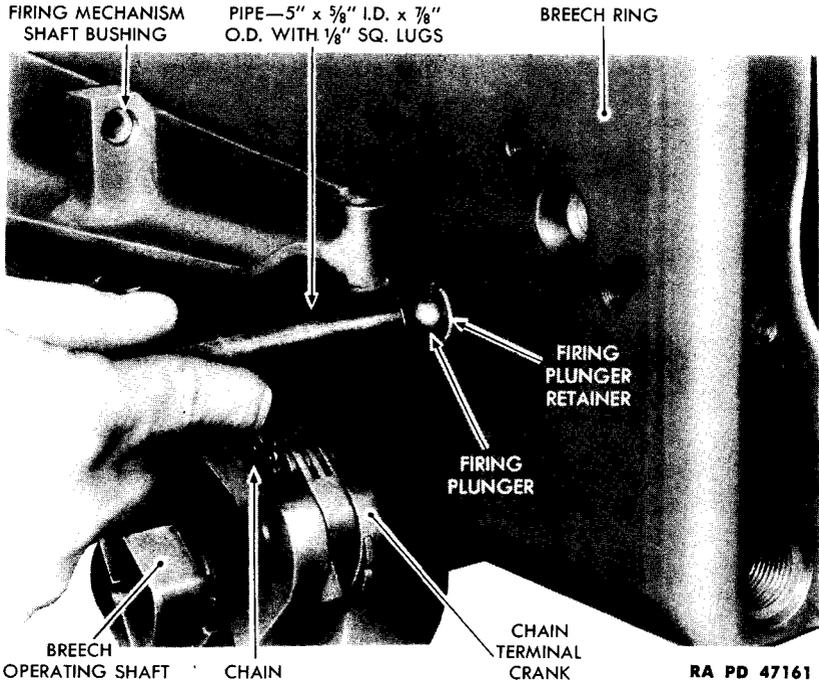

Figure 55 — Removing Firing Plunger
NOTE: Do not remove plunger from breech ring unless it has been broken. In that case make an improvised wrench from gas pipe or electrical conduit ($\frac{3}{8}$ -inch I.D. by $\frac{7}{8}$ -inch O.D. by $\frac{1}{8}$ -inch square lugs on end) and use it to unscrew retainer and remove retainer and plunger from breech ring (fig. 55).
(1) Aline bushing with hole provided in cradle, then start bushing into hole in cradle. Using improvised driving rod (par. 28 b (7)), drive bushings into position in cradle.
(2) Remove burrs from bushings caused by driving tool during installation. Smooth ends of bushings with fine-cut file and polish with CLOTH, crocus. The other bushing is installed in the same manner.
(3) Place firing plunger in hole provided in breech ring with long section of plunger entering ring first (figs. 50 and 55). Then screw on retainer which secures plunger in ring (fig. 55). Tighten with improvised tool and small Stillson wrench.